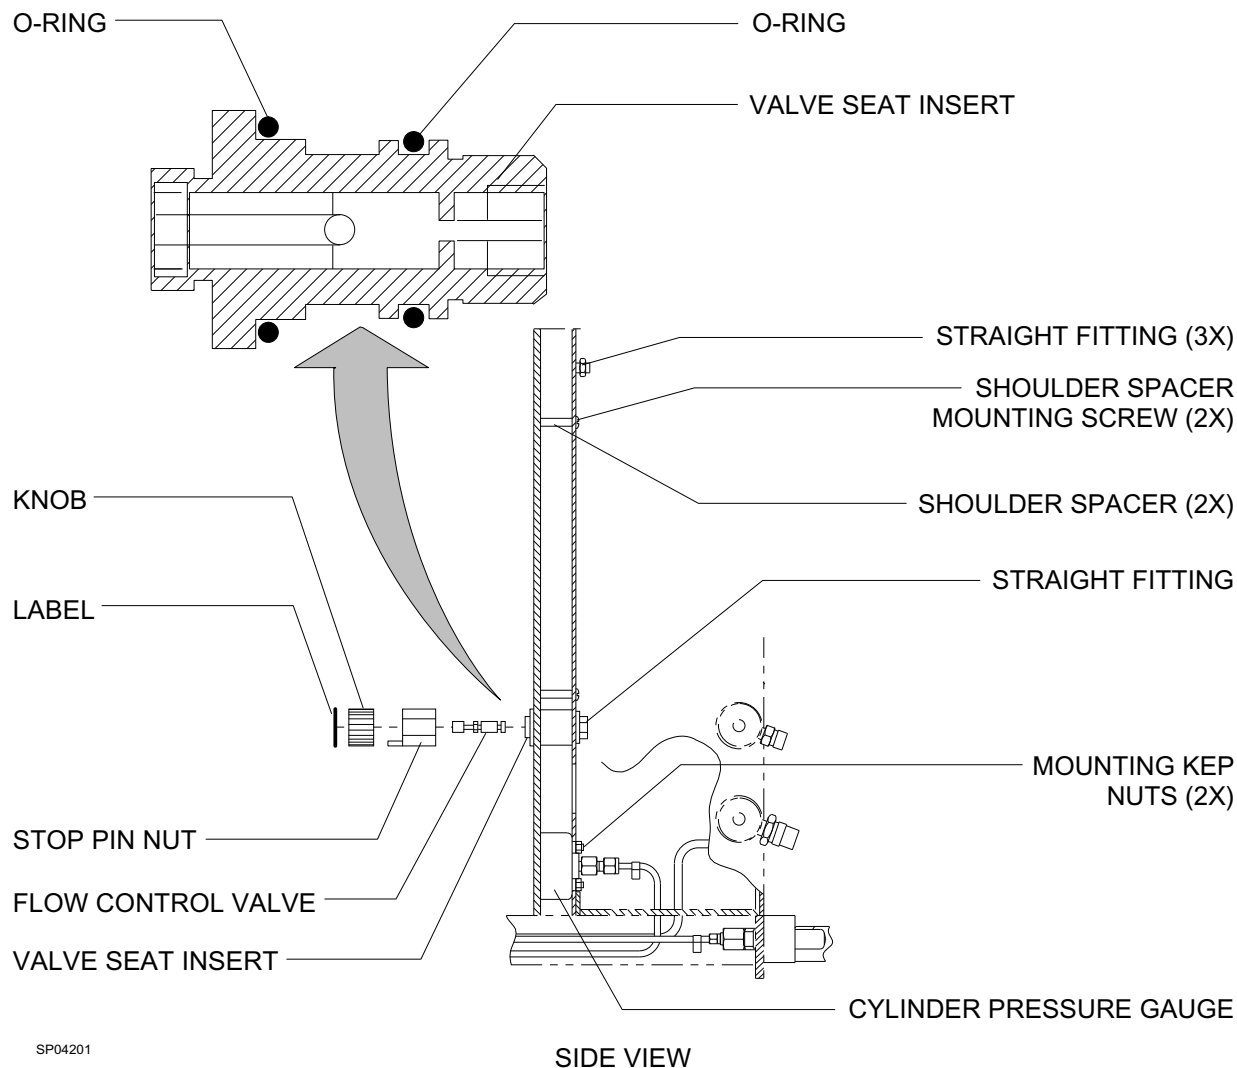

Figure 1: O₂-He FLOW CONTROL VALVE AND GAUGE INSTALLATION
15. Install the high pressure gauge in the hole of the gauge channel and secure it with two 10-32 kep nuts. See Figure 1.